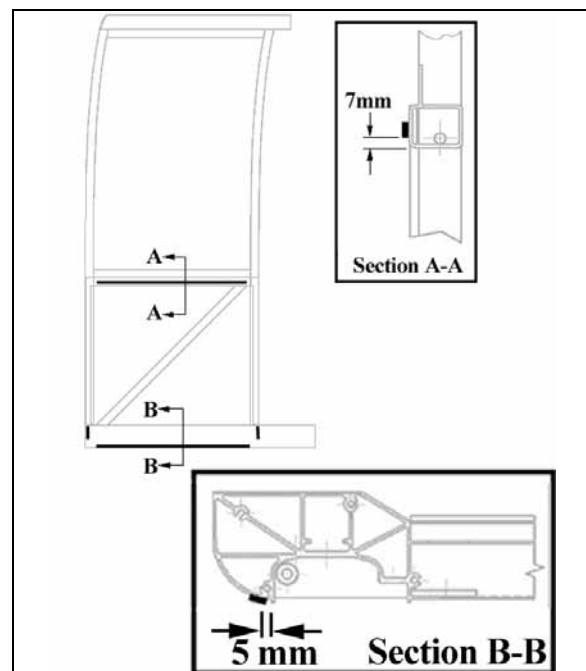

FIGURE 42 : SIDE PANEL INSTALLATION – DOUBLE FACE ADHESIVE TAPE APPLICATION ON THE SLIDE-OUT STRUCTURE
- Refer to figure 42 for 1/16x1/4 double face adhesive tape location on structure Do not remove the tape blue protective layer [7mm≈9/32"] [5mm≈6/32"];